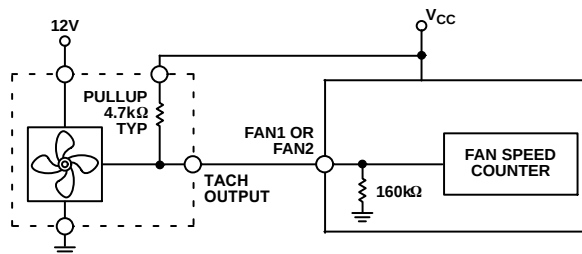
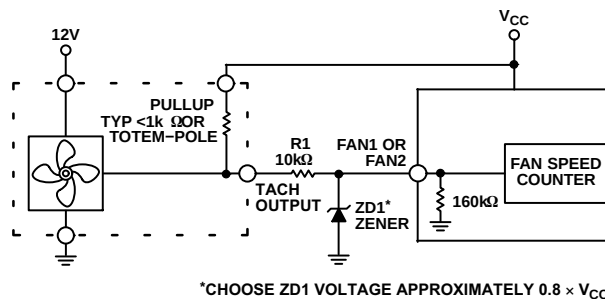
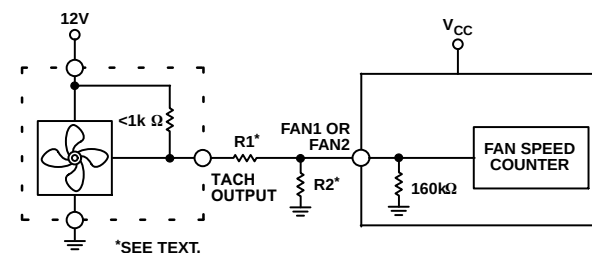

Figure 25. Fan with Tach Pullup to $+V_{CC}$
Figure 27. Fan with Strong Tach Pullup to $>V_{CC}$ or Totem Pole Output, Clamped with Zener and Resistor
Figure 28. Fan with Strong Tach Pullup to $>V_{CC}$ or Totem Pole Output, Attenuated with R_1/R_2
1. All of these circuits will provide an output range from 0 V to almost 12 V, apart from Figure 25 which loses the base-emitter voltage drop of Q1 due to the emitter-follower configuration.
Figure 25 to Figure 28 show circuits for most common fan tachometer outputs.
If the fan tachometer output has a resistive pullup to V_{CC} , it can be directly connected to the fan input, as shown in Figure 25.
If the fan has a strong pullup (less than 1 k Ω) to 12 V, or a totem-pole output, then a series resistor can be added to limit the Zener current, as shown in Figure 27. Alternatively, a resistive attenuator may be used, as shown in Figure 28.